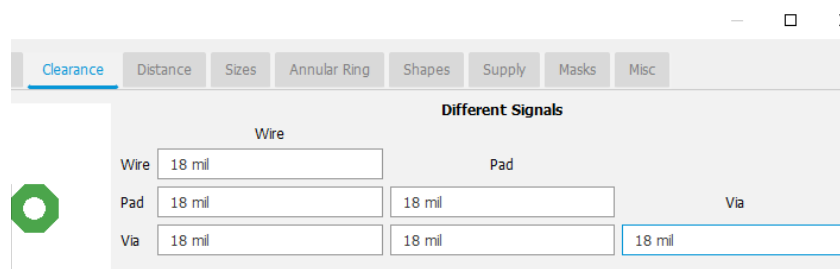

Figure 23 - Clearance rules.
4. Click on tab **Clearance** and set the clearance as **Figure 23** below.